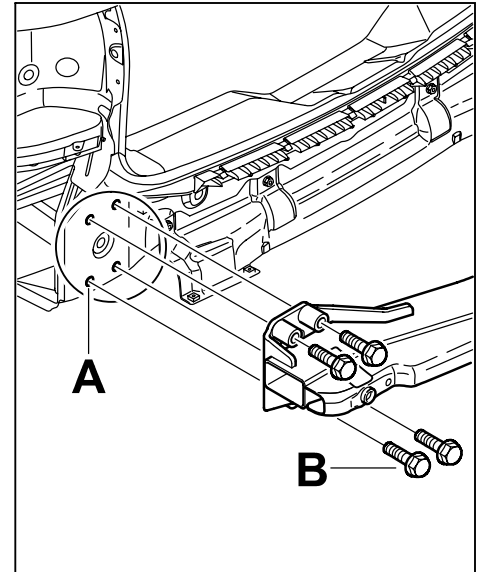

Figure 7
2.1 Check that the screw threads and contact surfaces (⇒ *Figure 7 -A-*) for fitting the trailer hitch are not dirty. Clean them and re-cut the threads using an M12 x 1.5 tap, or using an M14 x 1.5 tap on older vehicles, if necessary.
2.2 Fit the trailer hitch and tighten hand-tight at the left and right using eight new screws (M12 x 1.5 x 100, or M14 x 1.5 x 100 on older vehicles) ⇒ *Figure 7 -B-*.